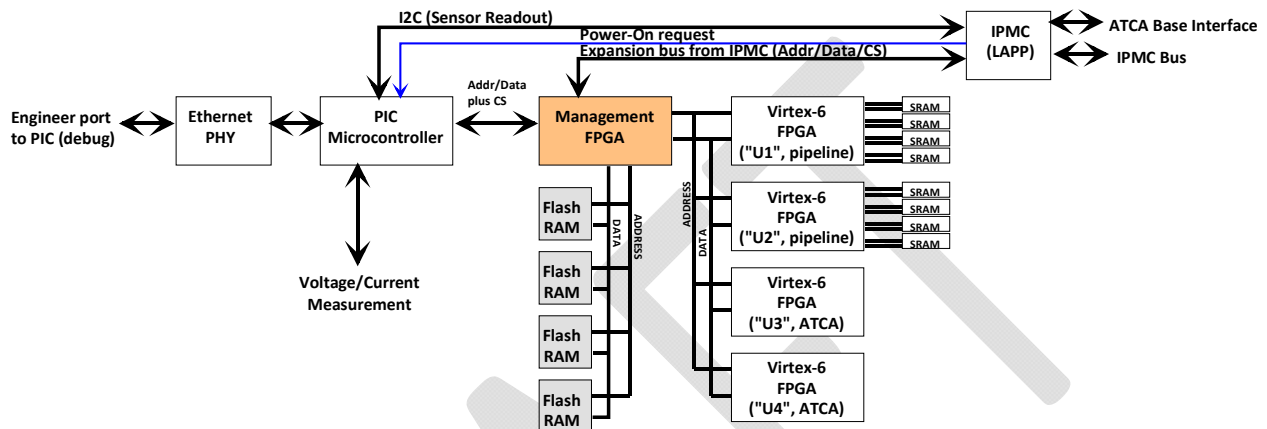

Figure 3 - Slow Control structure of FLIC
The FLIC implements five FPGAs on a shared slow control bus as shown in Figure 3. Access to the board for control or monitoring purposes is controlled by a small Management FPGA that processes read/write cycles from the PIC microcontroller. For compatibility with the ATCA standard an IPMC module connects to the PIC via a serial bus for sensor and monitoring requirements. At some future point the IPMC module may evolve to the point where the microprocessor of the IPMC may be the preferred control point, so the expansion bus of the IPMC is also connected to the Management FPGA.
**Configuration Controller**, the **Register Loader** and the **SRAM Loader**. Within the source code of the Management FPGA, these three machines are connected together in a common sub-design called **Sub-Machines**. This collection of machines is tied to a **List Mux** that is the implementation of the second-order signal mux described above in Table 4, plus a **List Machine** state machine that reads and executes the instructions contained in the **List Element** registers of the Management FPGA, as shown in Figure 3.